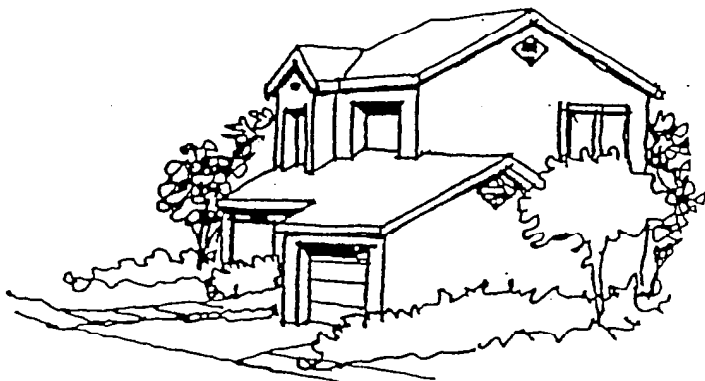

Figure 6
- ☐ *Step second floors back from the first floor line at home fronts and at side yards on corner lots (Figure 6).*